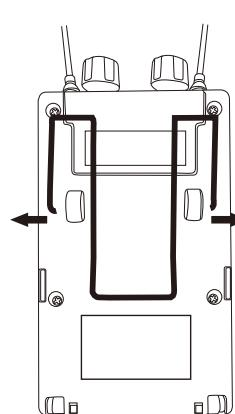

Figure 1
1. As shown in Figure 1, push outwards both arms of the metal belt clip away from the pin mounting holes to dismount the metal belt clip from the AWR6601U wireless receiver.